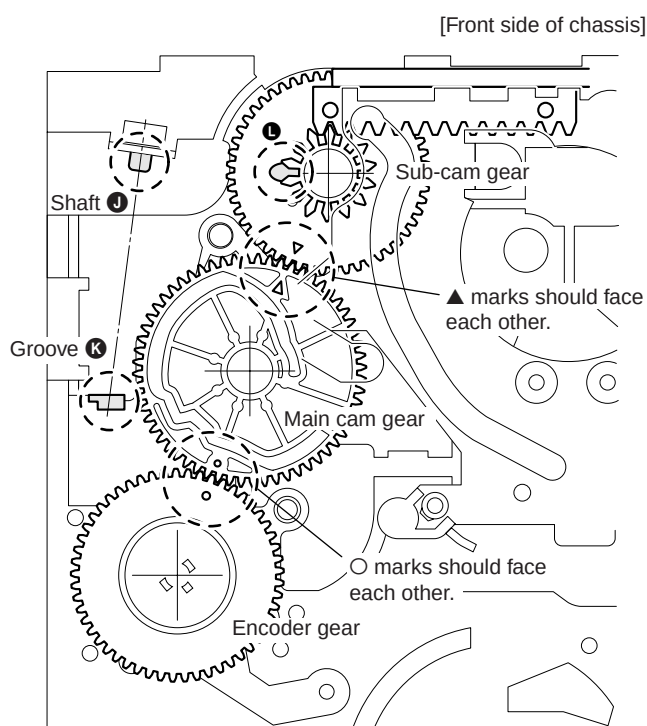

Fig. 8
- ④ Apply grease to the fixing block (shaft **J** and U-shaped groove **K**) of the coupling gear and portion **L** of the sub-cam gear (half size of one grain of rice for each part). (Fig. 8)
- ⑥ Attach the main cam gear while being careful of the directions of the front and rear sides. Also, take care of the phase adjustment to the sub-cam gear. (Fig. 8, 11, 12)
Adjust the phases (marked) to those of the main cam gear. (Fig. 4/Fig. 8)